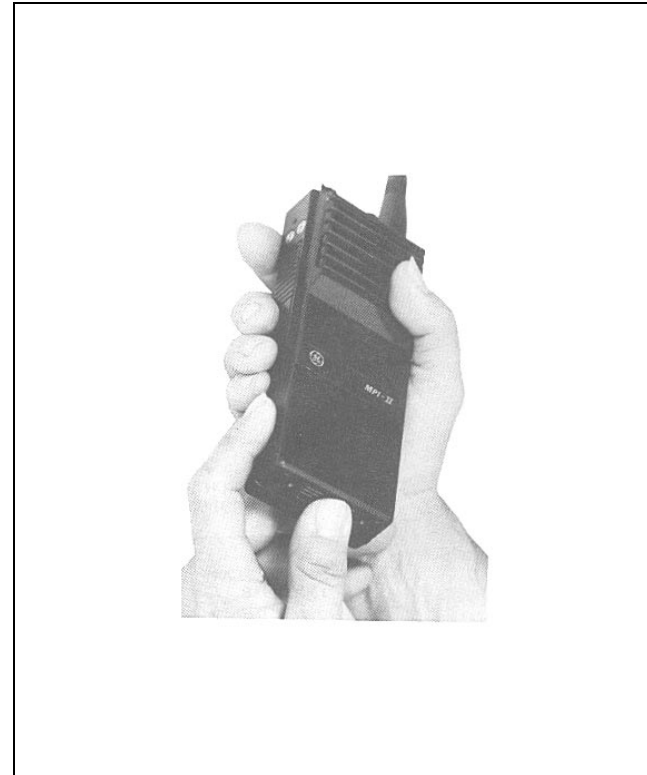

Figure 3 - Removing The Battery Pack
2. Place thumb on bottom of battery pack and press battery pack toward the top of radio as shown in Figure 3.